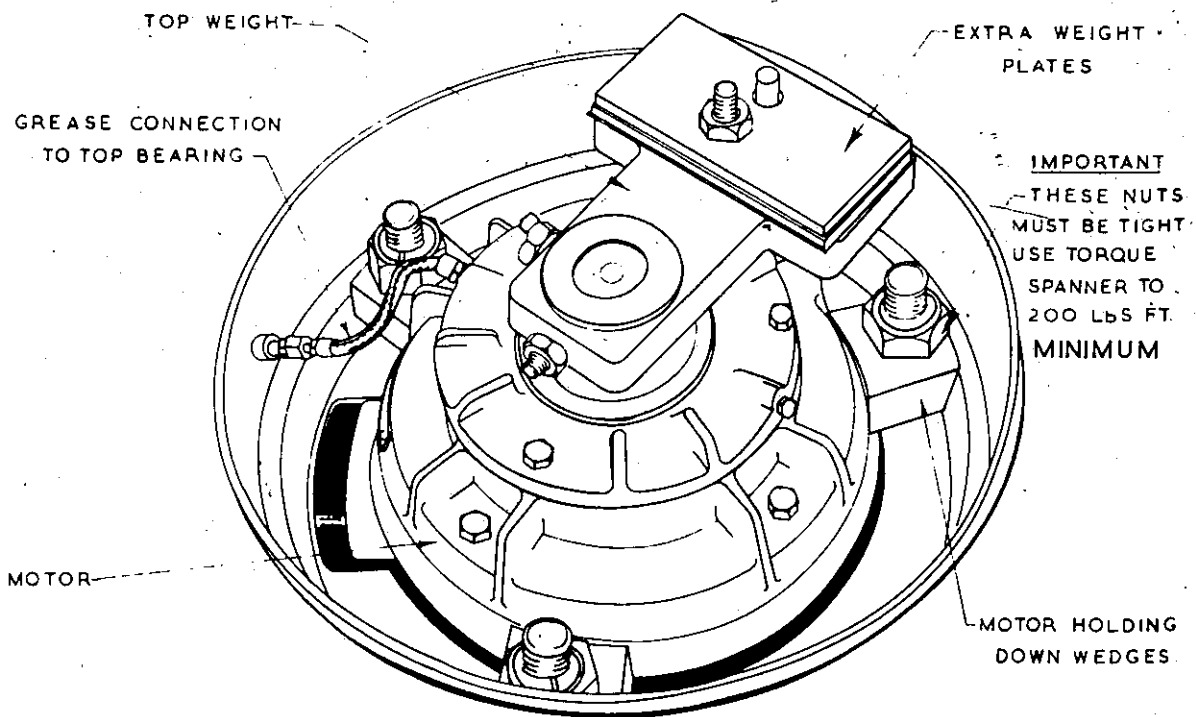

FIG. 3 VIEW SHOWING TOP MOTOR WEIGHT
- (a) The pattern which the material sets up as it travels horizontally across the screen cloth can be varied. The pattern is governed by the position of the bottom motor eccentric weight in relation to the top eccentric weight. (See Figs. 3 and 4, page 6, and Fig.6, page 8).
- (c) If the material being screened is particularly sticky or viscous and does not travel readily across the screen surface, additional plates may have to be added to the top motor eccentric weight. (See Fig.3, page 6).